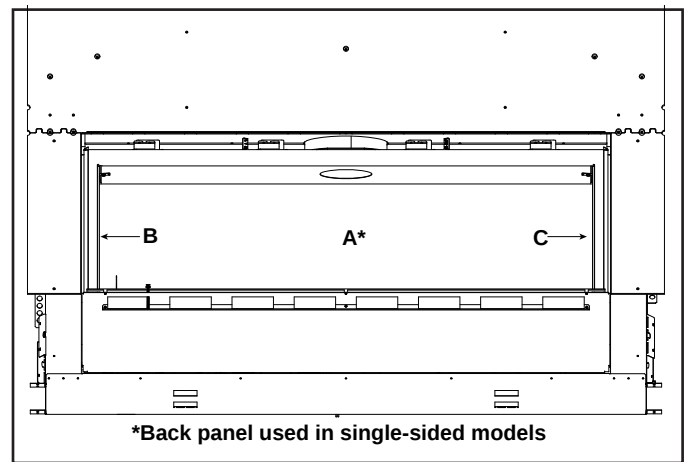

Figure 11.4 Placement of Glass Panels
1. Set back glass panel, labeled A in Figure 11.4, into firebox on top of the two (2) spacer blocks with the smooth side of the glass facing outward. Position retaining bracket inside appliance as shown in Figure 11.6. Line up the hole in the heat shield with the hole closest to the bend in the bracket and secure in place with a screw. See Figure 11.5 and Figure 11.6.
4. Install the left side panel, labeled “B” in Figure 11.4, by sliding it into place from the front. While installing, press the panel firmly against the firebox side.
1. Set left side glass panel, labeled B in Figure 11.4, into firebox with the smooth side facing outward.